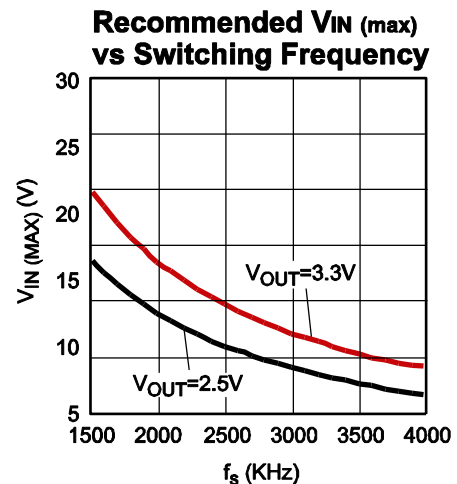

Figure 2: Recommended Max. V_{IN} vs f_s
- The recommended operating voltage is < 12 V, and < 24 V at 2MHz. Refer to Figure 2 for more information.